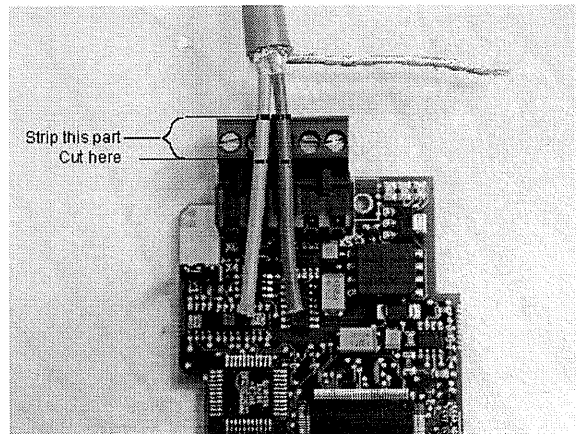

Figure 3-3. Stripping Data Cables
1. Strip about 5 cm of the cable and cut off the grey cable shield. Remember to do this for both bus cables (except for the last device). See Figures 3-3 and 3-4 below.